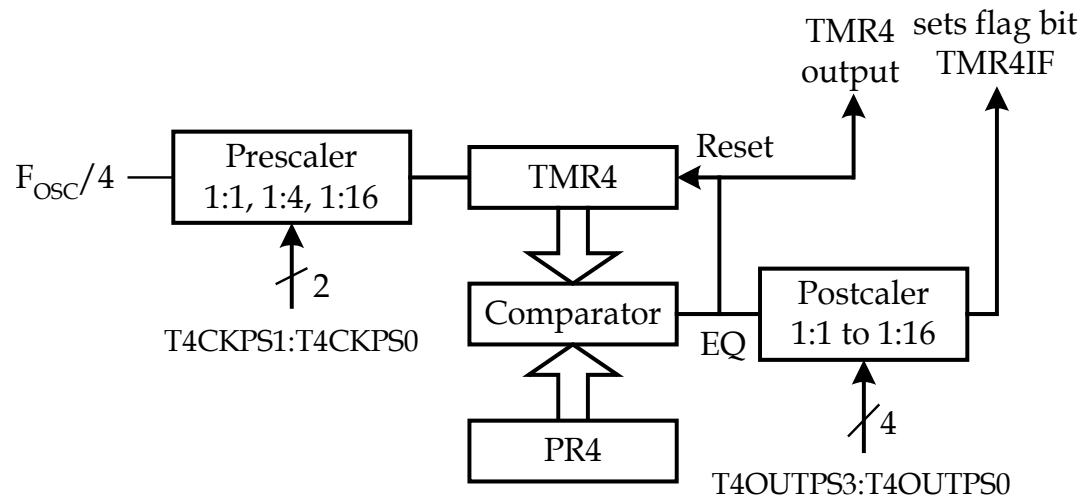

Figure 8.9 Timer4 block diagram (redraw with permission of Microchip)
- The block diagram of Timer4 is shown in Figure 8.9.